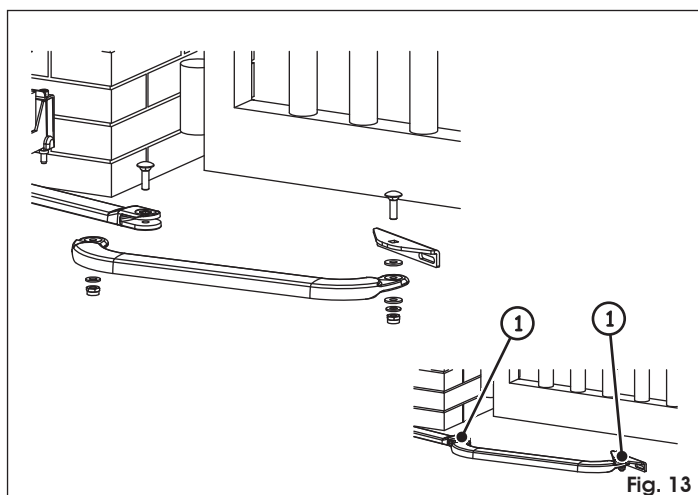

Fig. 13
7. Assemble the rest of the arm as illustrated in Fig. 13.
✎ For correct operation, tighten the two securing screws (Fig. 13 ref. ①) and then loosen them by about 1/2 turn to enable rotation without any friction on the arms.